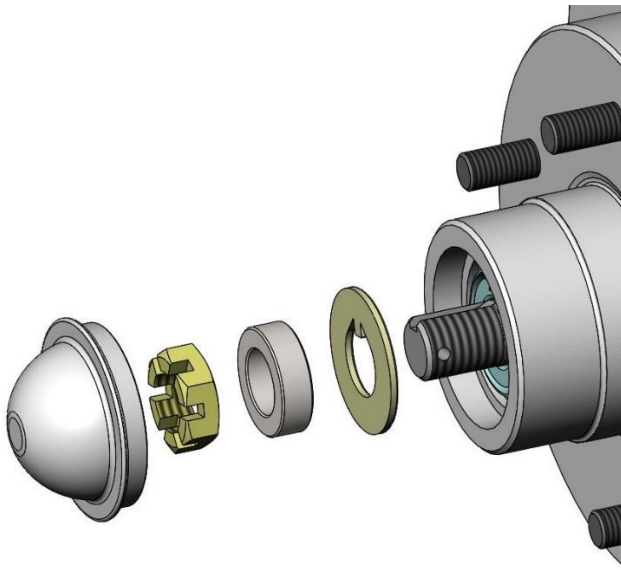
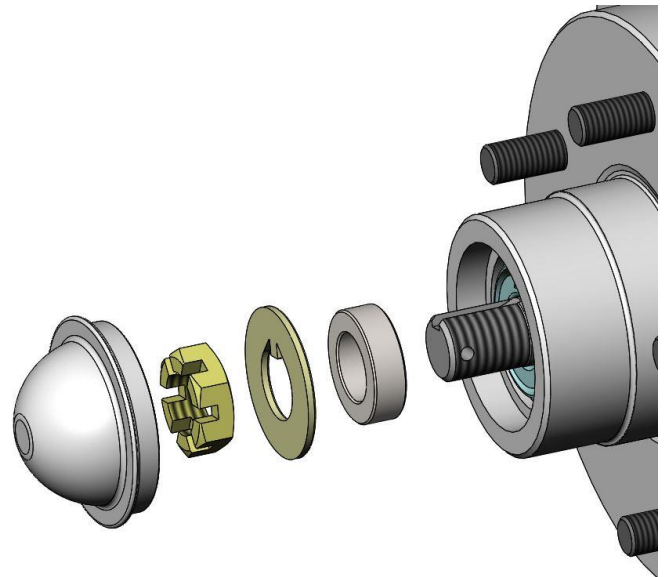

Figure 6 – Castle Nut Spacer w/ Long Machined Keyway
Figure 7 – Castle Nut Spacer w/ Short Machined Keyway
11. With the rotor fully pushed onto the spindle, install the outer wheel bearing followed by the keyed washer and re-use the original spindle nut. Due to the use of tapered roller bearings instead of the OEM straight roller bearings a Castle Nut Spacer must be used to align the cotter pin hole in the spindle to the castle nut. We have also seen inconsistencies with how far the key way is machined into the spindle. If your spindle has a long machined key way in the spindle allowing the Spindle Washer to set flat against the bearing, refer to Figure 6 below for the proper sequence of installing the Castle Nut Spacer. If your keyway is machined so short that it will not allow the Spindle Washer to set flat against bearing refer to Figure 7 below.